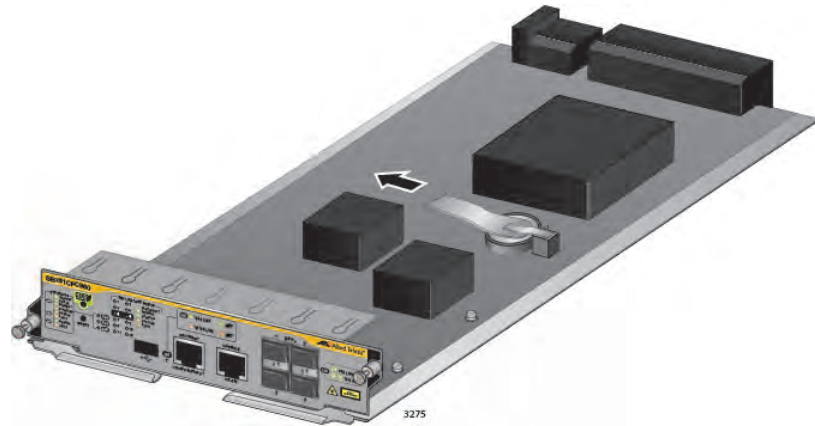

Figure 74. Removing the Battery Insulator
4. Carefully remove the battery insulator tab on the controller card by sliding it out from between the battery and battery clip, as shown in Figure 74.